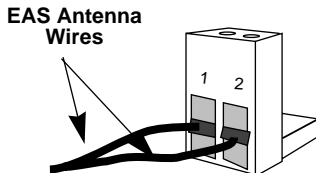

Figure 10. Rear of EAS Connector
10. Insert the two EAS antenna wires into the rear of the EAS connector, located on the EAS antenna box, in the holes marked "1" and "2" (Figure 10).